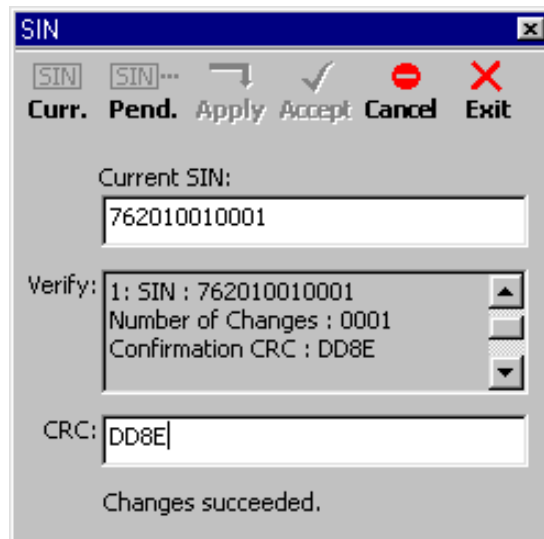

Figure 3-64
6. Select the **Accept** button at the top of the display to finalize the changes. After the changes are accepted, the **Accept** button is disabled and the phrase “Changes succeeded” appears below the CRC text box (see figure 3-64).